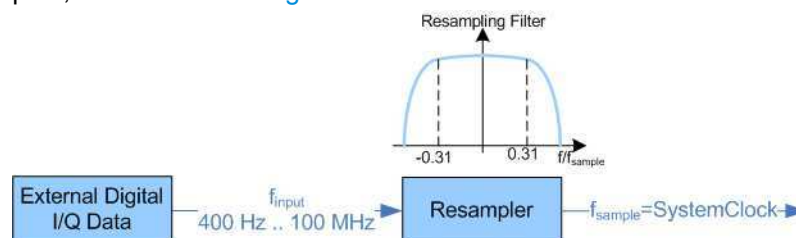

Fig. 5-23: Resampling principle of external digital baseband signals
- External input signals with sample rates different than the system clock are resampled, as illustrated on figure 5-23.
- A baseband signal with a sample rate that is smaller than the used system clock is interpolated (see figure 5-23). With R&S SMBV-B10, the resulting modulation bandwidth is calculated as $Sample\ Rate * 0.62$, i.e. with a sample rate of exactly 100 MHz, the modulation bandwidth is 62 MHz.